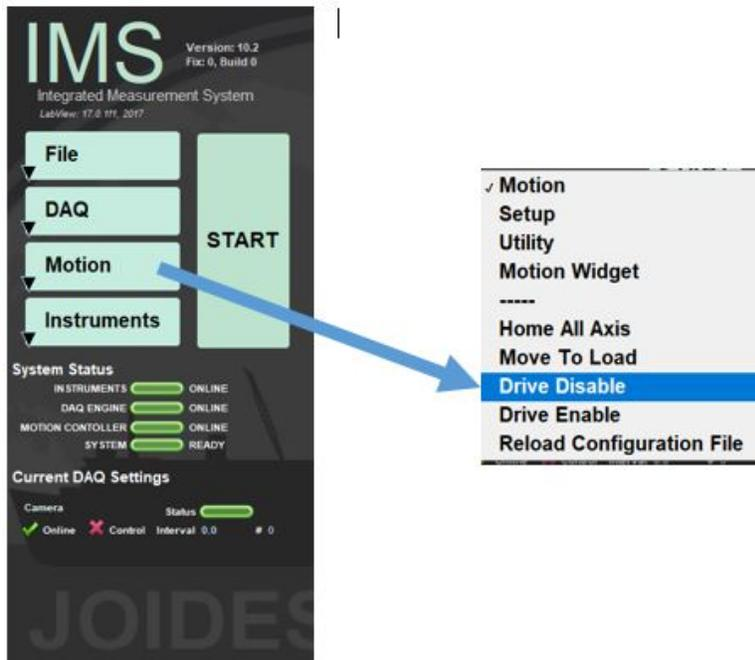

Figure 20. IMS commands to disable the drive
1. Disable the motor that moves the camera. In the IMS control panel select **Motion** and then **Drive Disable** from the dropdown menu (Figure 20). The user can now manually move the camera to the desired spot.